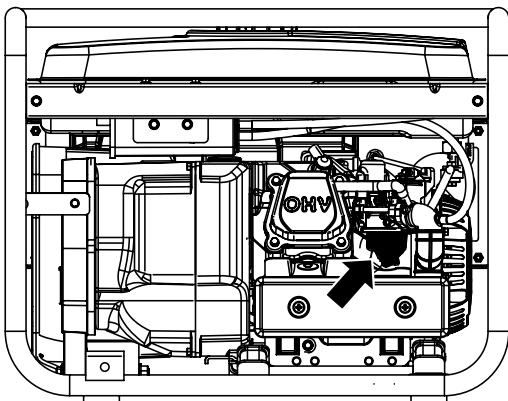

Figure 16: Carburetor float bowl
1. Locate carburetor float bowl above air filter (see Figure 16).